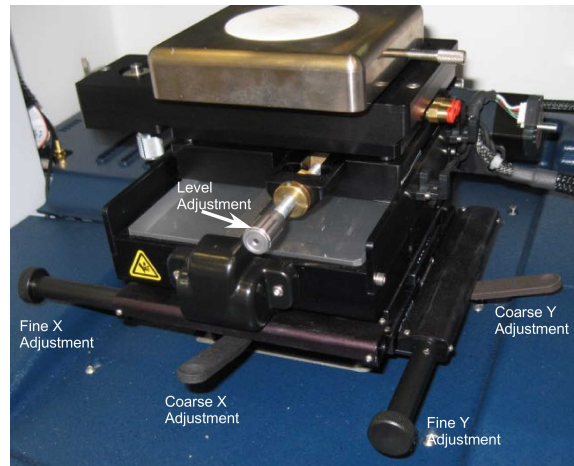

Figure 2. DektakXT stage.
- i. Push the lever below the front of the platform down for coarse X movement. Push the lever back up to secure coarse position, Figure 2.
- iii. Turn the respective X and Y adjustment knobs (Figure 2) to fine adjust the sample position.